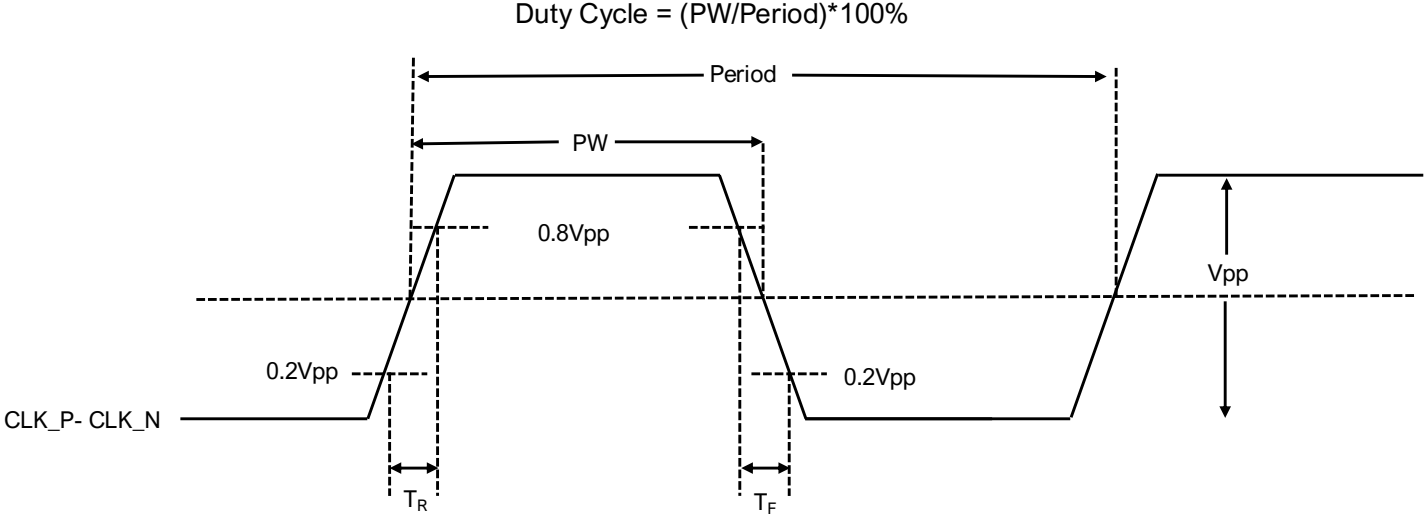

Figure 13. Output Timing across differential pair (CLK_P-CLK_N)
- Updated Figure 13: Output Driver (HCSL); removed AC coupling